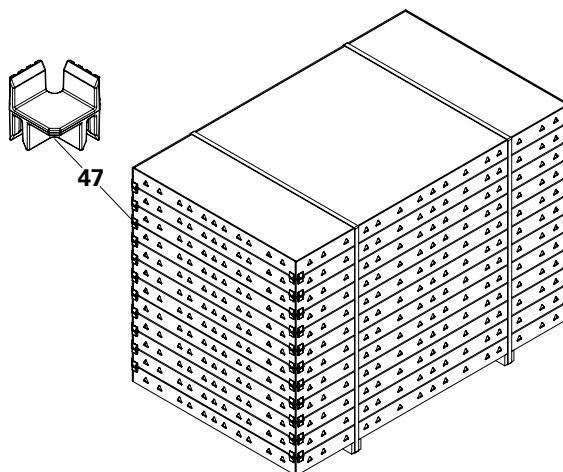

Fig. A2.01
Store and transport panels of the same size in one stack! (Fig. A2.01)
Use stacking aid HSA (47) in order to protect the panels. (Fig. A2.01)